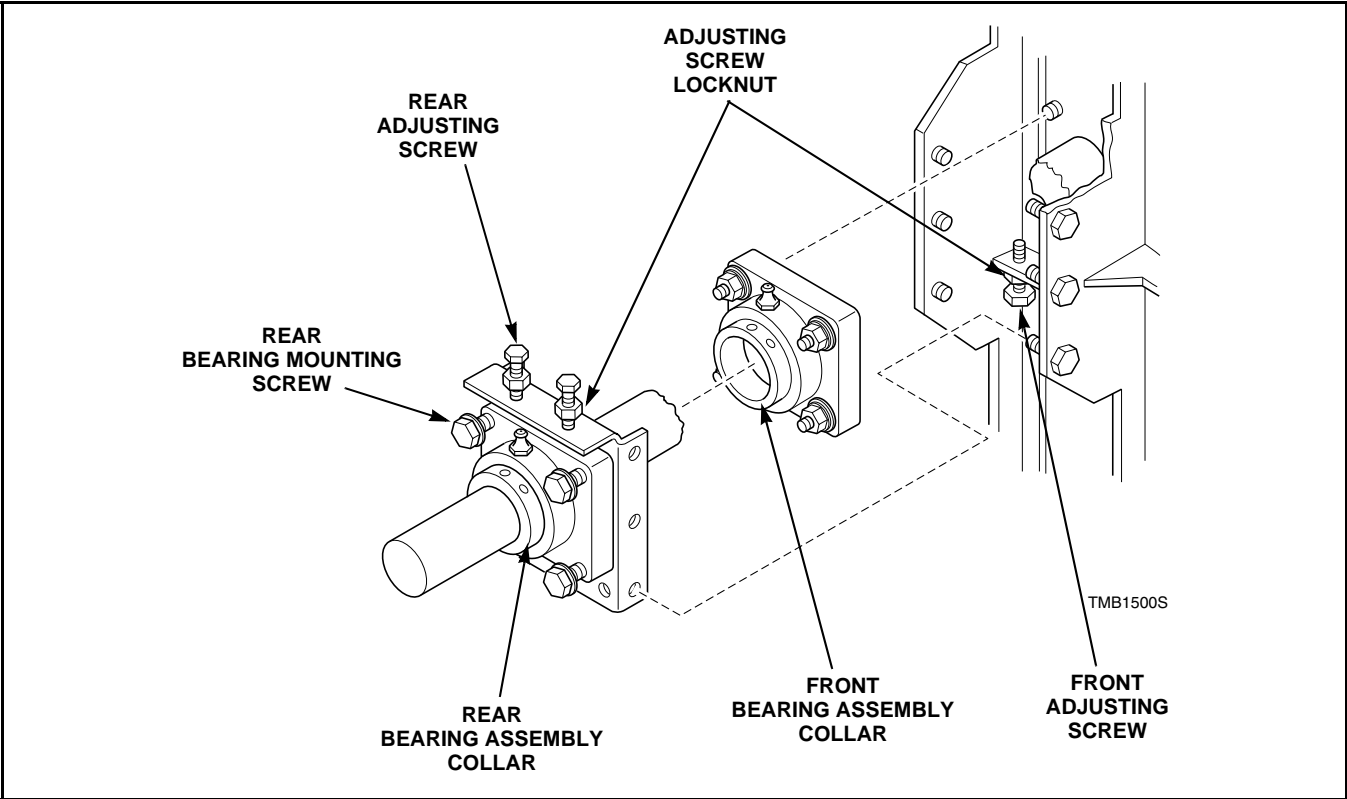

Figure 30
- c. Loosen rear bearing mounting screws. Refer to *Figure 30*.
- d. Loosen the locknuts on rear adjustment screws. Refer to *Figure 30*.
- j. Loosen setscrews in the front bearing assembly collar and rear bearing assembly collar. Refer to *Figure 30*.